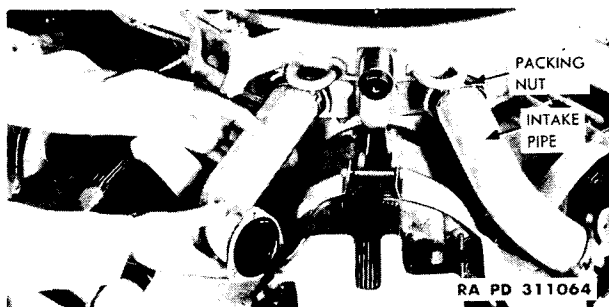

Figure 14 — Removing Intake Pipe
e. **Remove Intake Pipes** (fig. 14). Loosen the packing nut at the crankcase end of all intake pipes using lug wrench (5A2287). Remove three capscrews at cylinder end of intake pipes. Withdraw the intake pipes from the supercharger front housing.